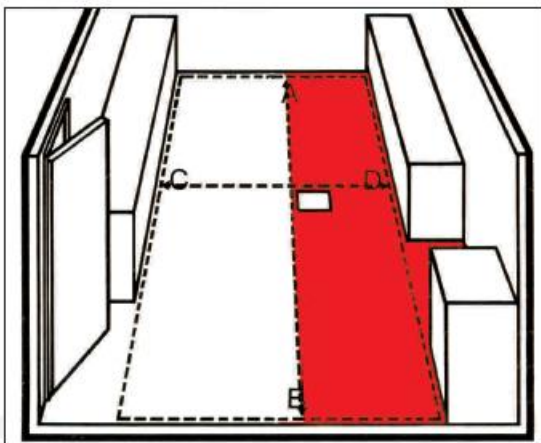

Fig 5
2.5 Place the first tile carefully at the intersection of the two chalk lines. Refer to Fig 5.